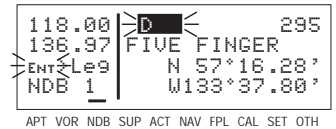

Figure 3-49
5. Press **ENT** and the display will change to the waypoint page for the selected waypoint (figure 3-49).